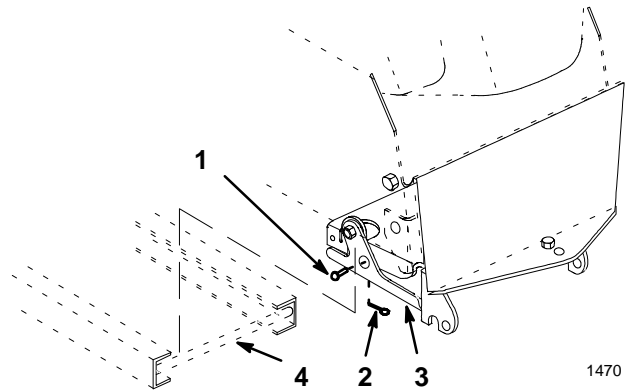

Figure 14
5. Remove hairpin cotters and clevis pins from latch levers (Fig. 14). Open latch levers and lower the frame (Fig. 14).